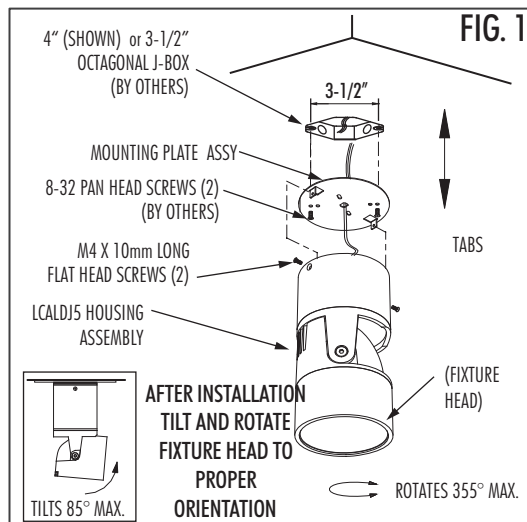

FIG. 1
1. As needed remove Mounting Plate Assembly (MPA) from Housing Assy (FIG 1) by removing the two (2) M4 screws on the side of the fixture.
5. Secure Mounting Plate Assembly in a 3-1/2" or a 4" octagonal j-box, with appropriate hardware (by others) (FIG 1). Keep wires from Housing Assembly to Mounting Plate Assembly attached. Do NOT pull on wires from Housing Assembly to LED driver.
6. Align the two (2) tabs on the Mounting plate to the slots in the top of the Housing Assembly (FIG. 1).